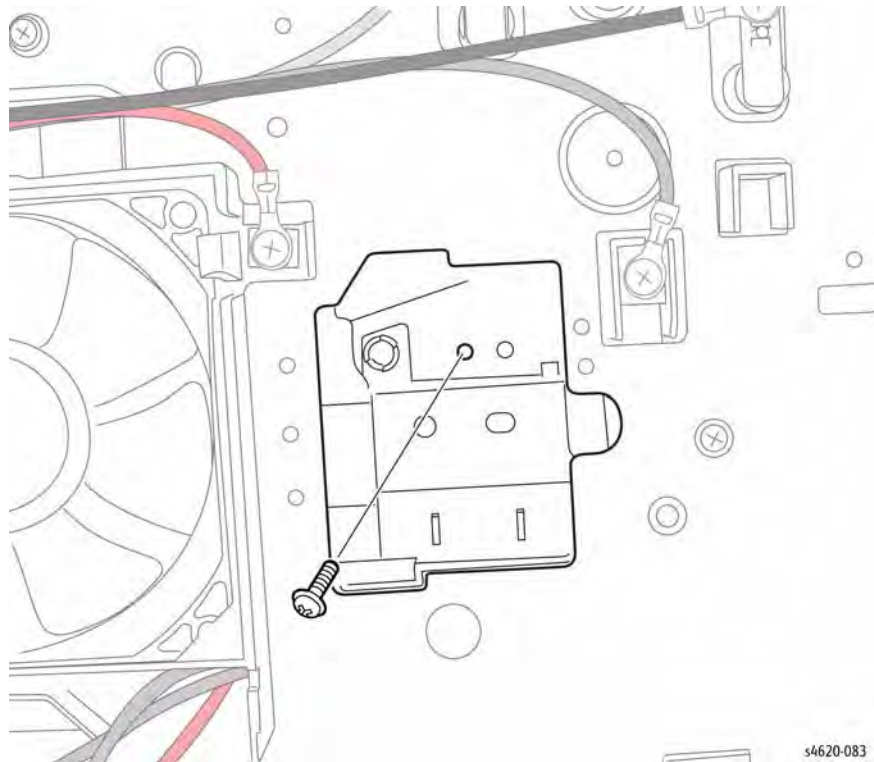

Figure 2 Remove the Shaft Frame Assembly screw
8. Remove 1 screw (plastic) that secures the Shaft Frame Assembly to the frame, Figure 2.